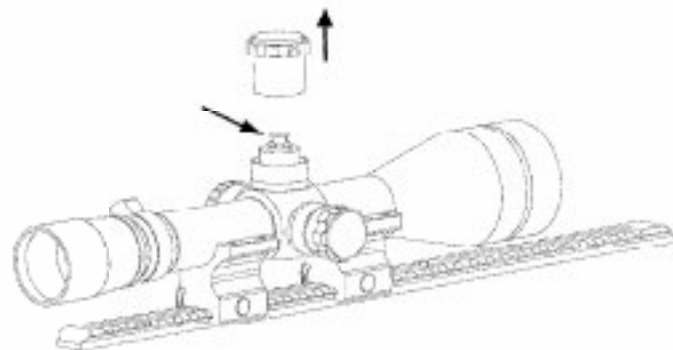

Figure 2-5
6. Using the tool provided by the scope manufacturer, remove the screw(s) attaching the scope's elevation knob to its elevation post. Lift and remove the rifle telescope's elevation knob to expose the elevation post. Figure 2-5.